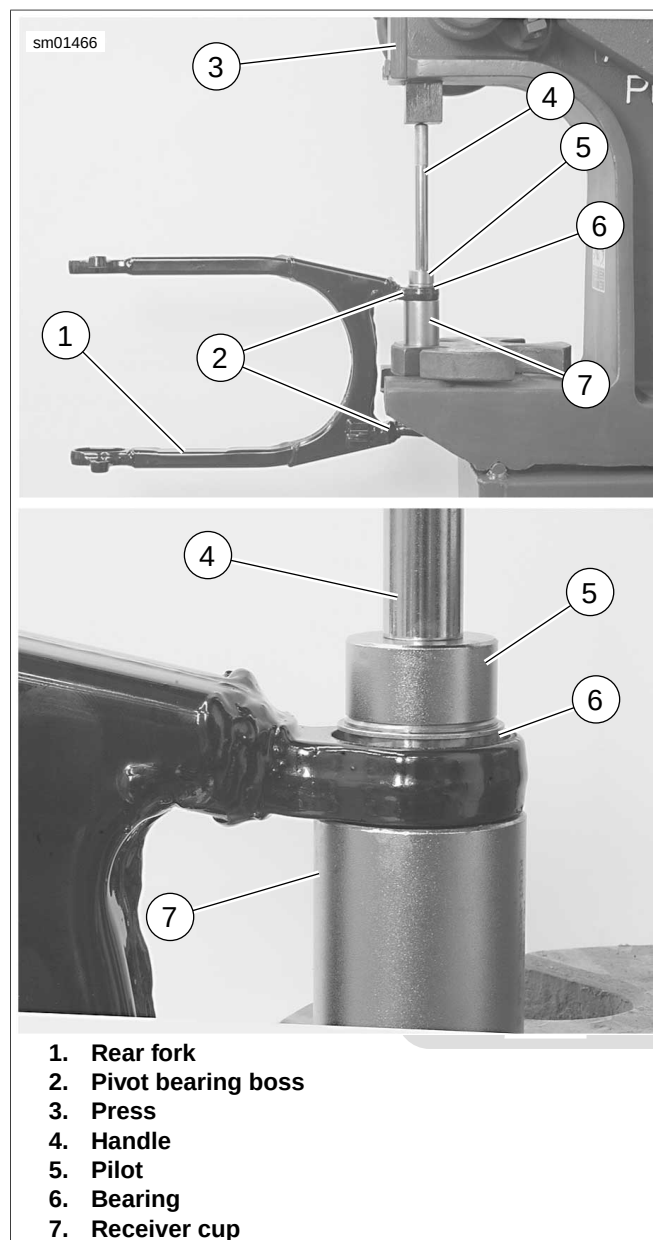

Figure 2-206. Installing Rear Fork Pivot Bearings: All Models (XL Shown)
- a. See Figure 2-206. Place receiver cup (7) on press bed, with recessed end of cup facing up.
- b. Place rear fork pivot bearing boss (2) over cup as shown in the photo.
- c. Place **new** pivot bearing (6) over pivot bearing boss, with retaining ring side of bearing up.
- d. Slide pilot (5) through **new** pivot bearing, through pivot bearing boss, and into receiver cup.
- e. Insert handle (4) down into pilot.